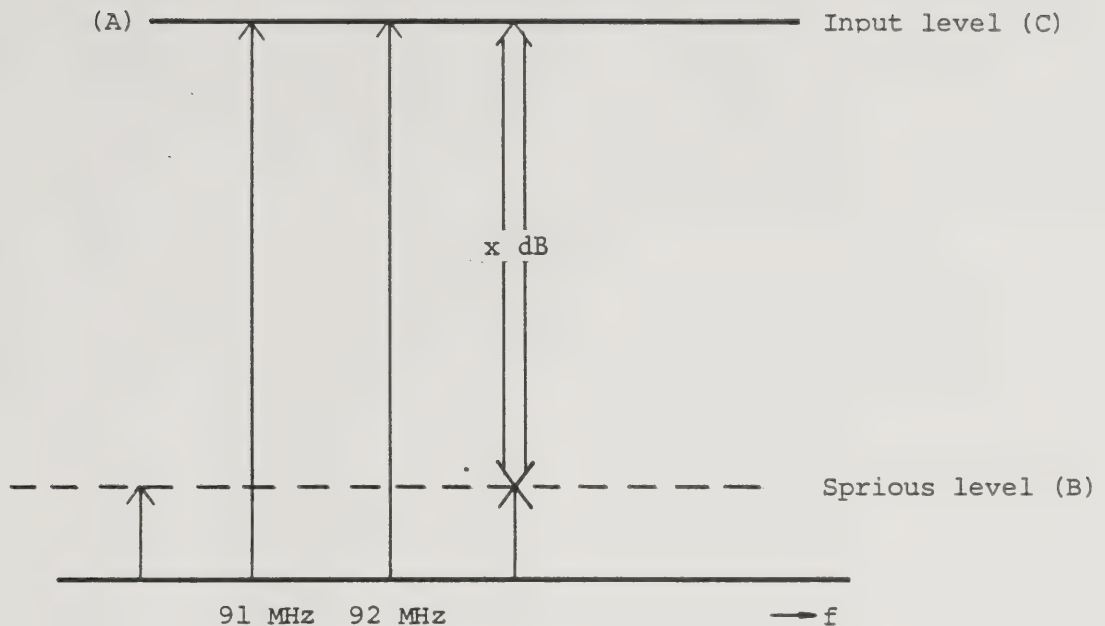

Fig. 4-3 Two-signal characteristic measurement
- (7) Read the difference between the input level and distortion level with the delta marker (see Figure 4-3).